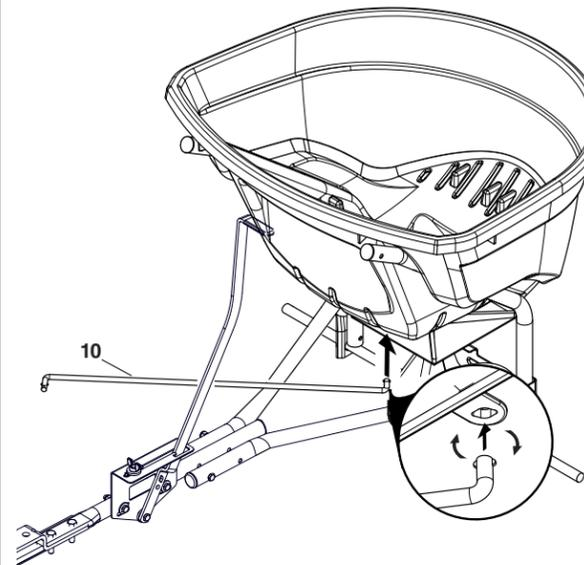

Figure 11
STEP 11: (SEE FIGURE 11)
- Install the end of the flow control rod (10) with no hole into the elongated hole in the flow plate on the bottom of the hopper. Lock the rod in the flow plate by rotating the rod.